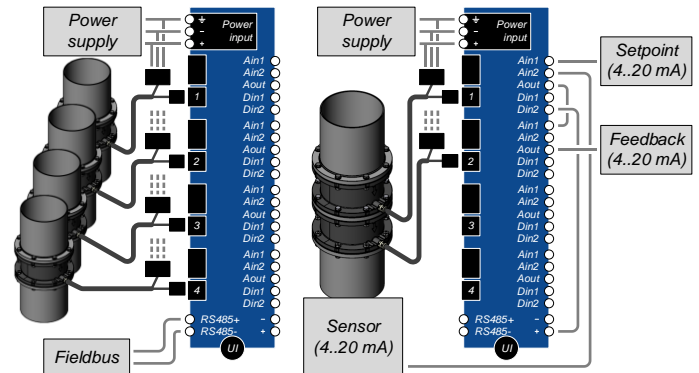

Figure 5: Example of interface panel setups
- Individual control of up to four fans through a single power and fieldbus connection (Figure 5, left).
- Analog synchronization of two or more fans for parallel or serial operation (Figure 5, right).